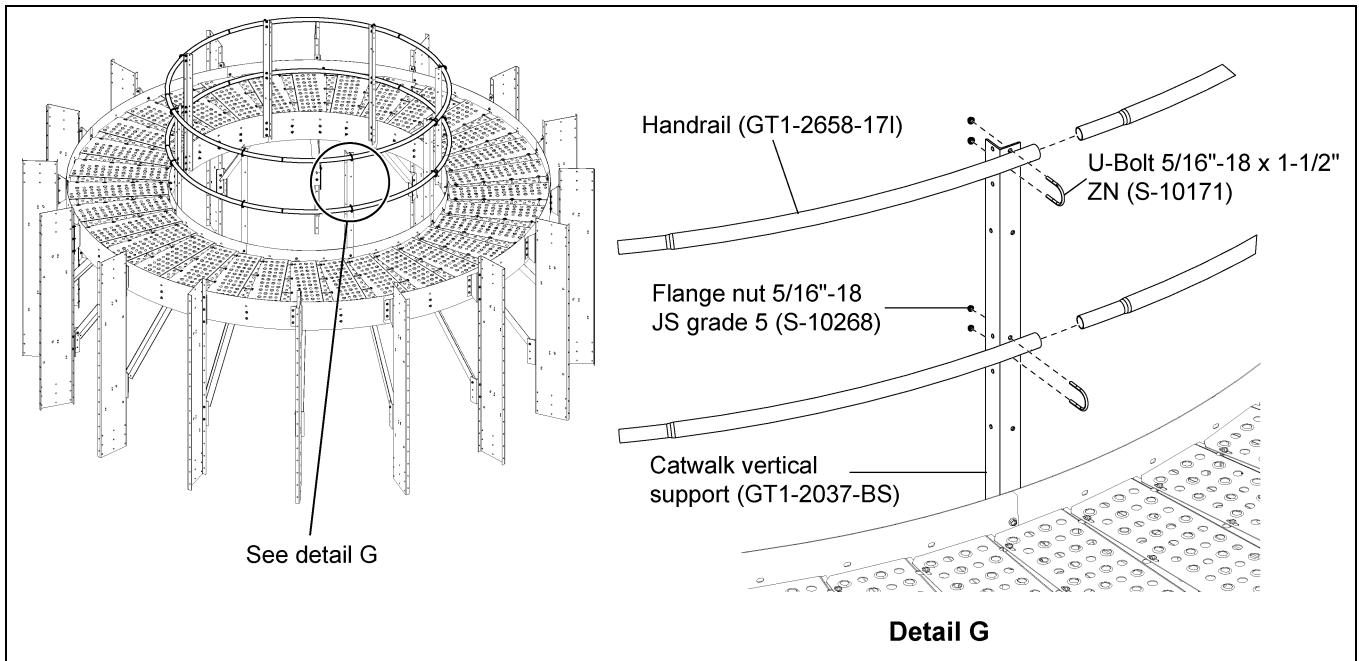
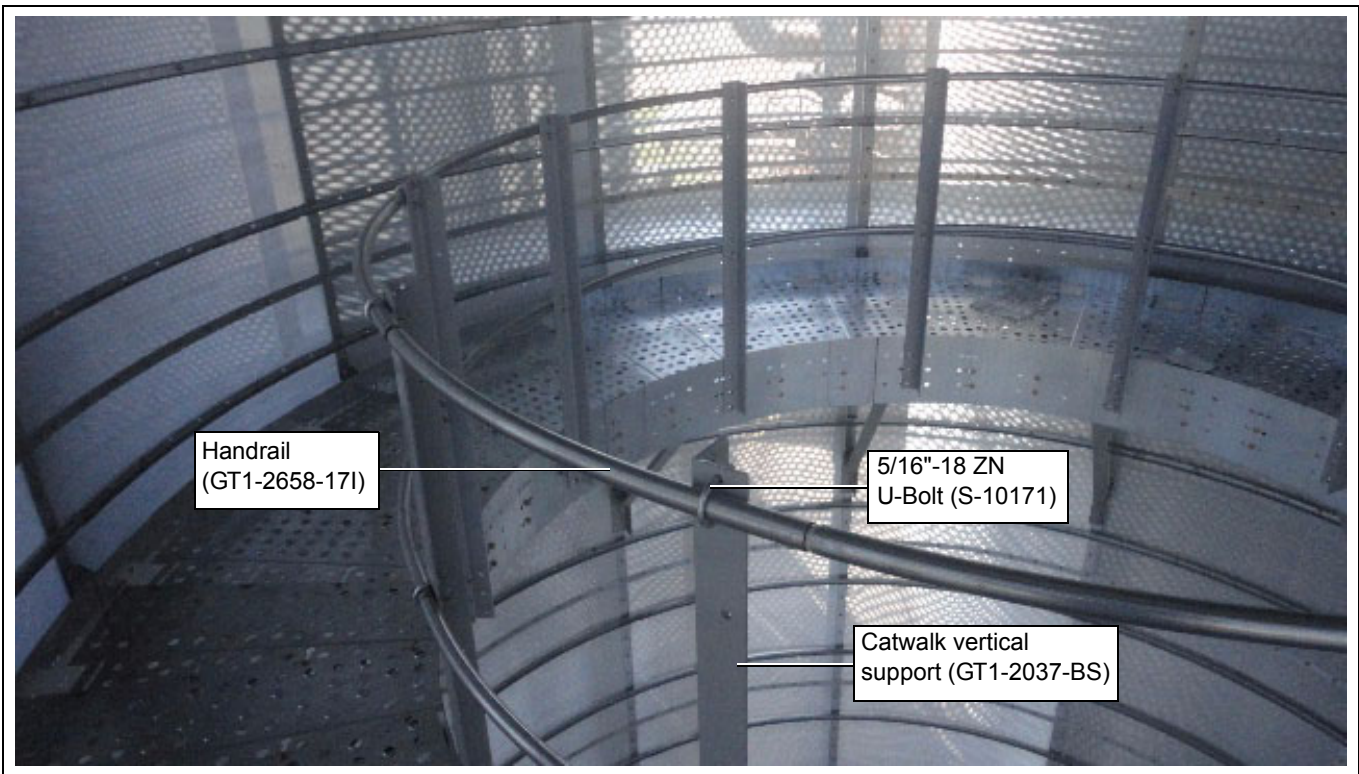

Figure 5L
Figure 5M
1. Install the handrail (GT1-2658-17I) to the catwalk vertical support (GT1-2037-BS) using 5/16"-18 ZN U-bolts (S-10171) and 5/16"-18 JS grade 5 nuts (S-10268) to tighten the handrail with vertical post. (See Figure 5L and Figure 5M.)